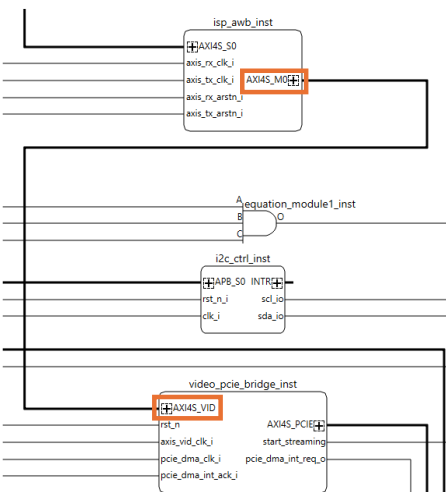

Figure 7.15. Lattice Propel Builder Connection Update for UVSI
5. The unified video streaming data width is updated, resulting in the existing UVSI connections to be disconnected. Reconnect video_pcie_bridge_inst AXI4_VID to isp_awb_inst AXI4S_M0E as shown in Figure 7.15.